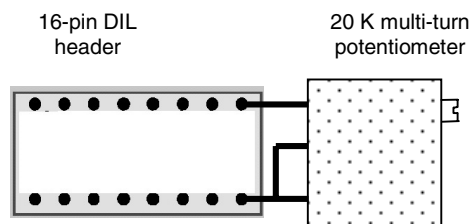

Figure 8 - 20 K potentiometer on dil header
- Solder two of the potentiometer legs (centre and one side) to one side of the dil header, and the other leg to the other side, refer to figure 8 below.